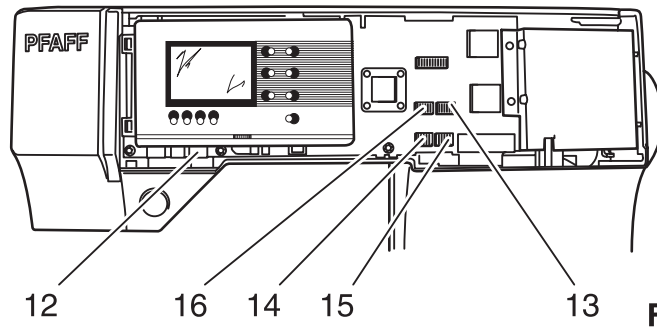

Fig. 12
- Remove the five connection plugs 12, 13, 14, 15 and 16 from the circuit board (fig. 12).